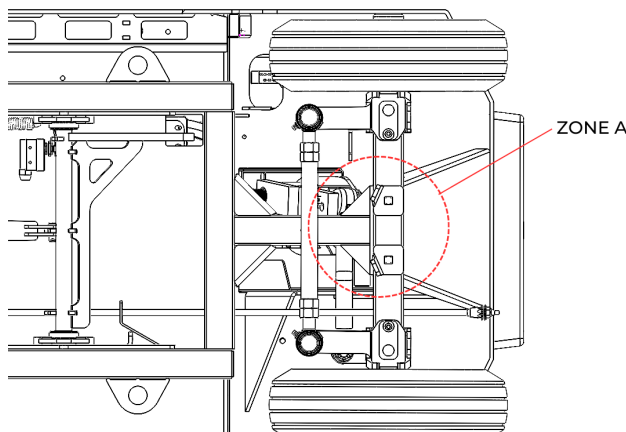

Figure 32. Zone A (Welds and Axle tube).
- Welds and Axle tube (see zone A in Figure 32).